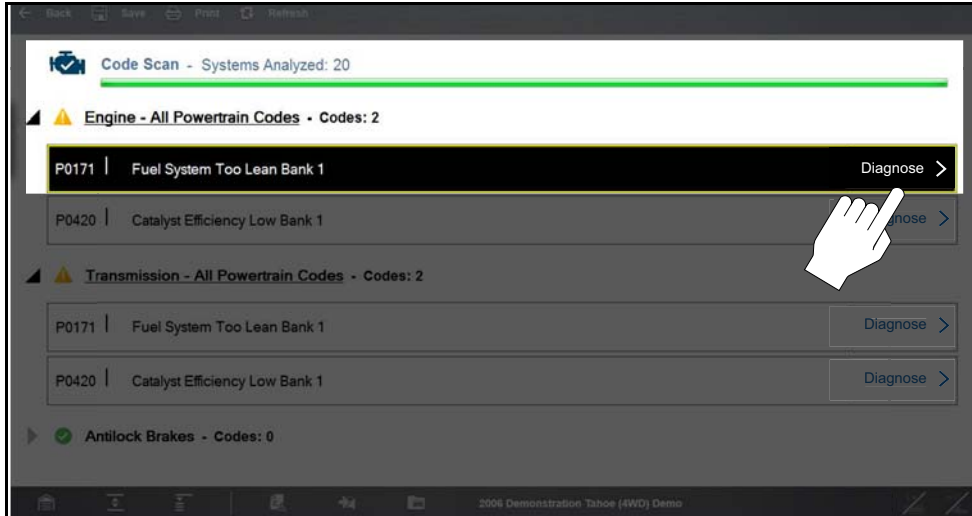

Figure 5-22 Diagnose icon
- **Diagnose Icon** - (Figure 5-22) Selecting **Diagnose** opens **Intelligent Diagnostics** providing you additional code specific information. See *Intelligent Diagnostics* on page 64 for detailed information.